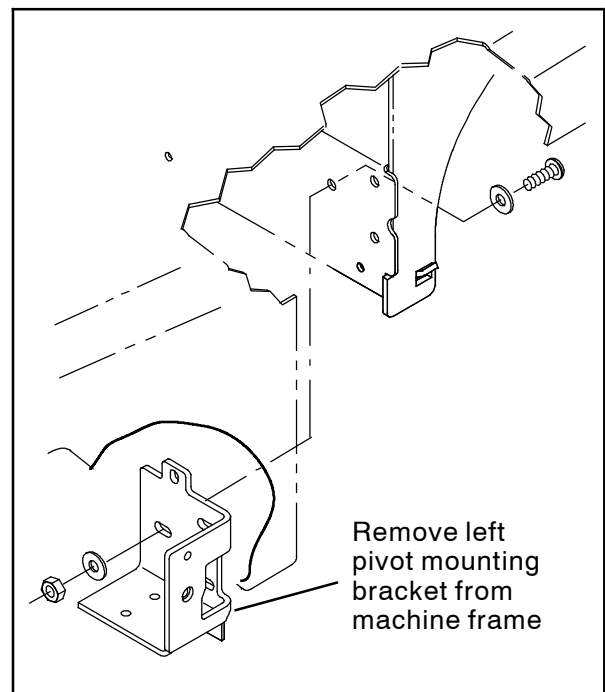

FIG. 11
13. Remove the left pivot mounting bracket from the frame of the machine. Discard the removed hardware and the left pivot mounting bracket. (Fig. 11)